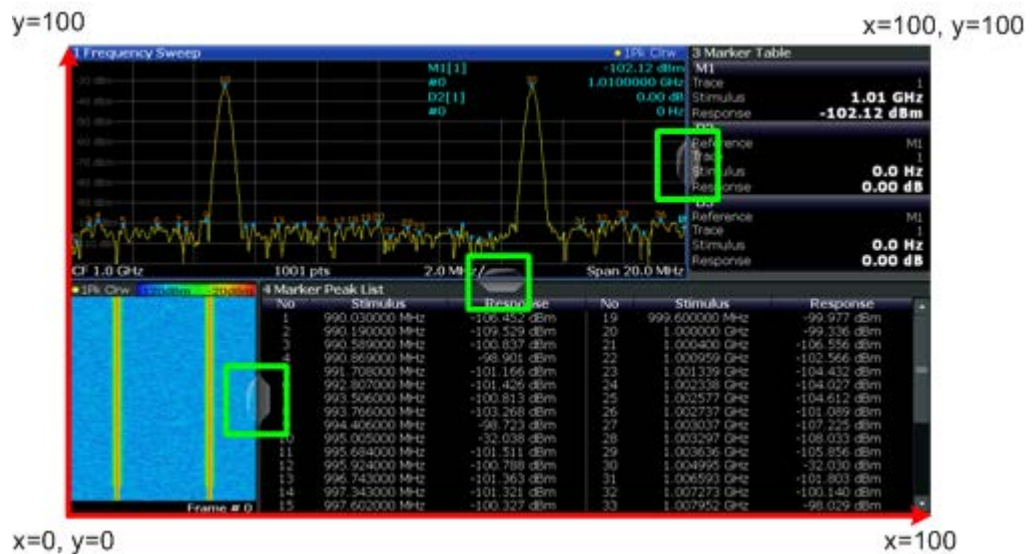

Fig. 10-1: SmartGrid coordinates for remote control of the splitters
- <Position> New vertical or horizontal position of the splitter as a fraction of the screen area (without channel and status bar and softkey menu). The point of origin ( $x = 0$ ,  $y = 0$ ) is in the lower left corner of the screen. The end point ( $x = 100$ ,  $y = 100$ ) is in the upper right corner of the screen. (See figure 10-1.)